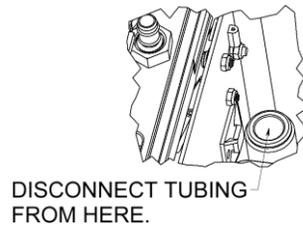

Figure 6-1. Loosening Air Hose.
- b. Disconnect tubing from quick-disconnect in-line connector. See Figure 6-1.